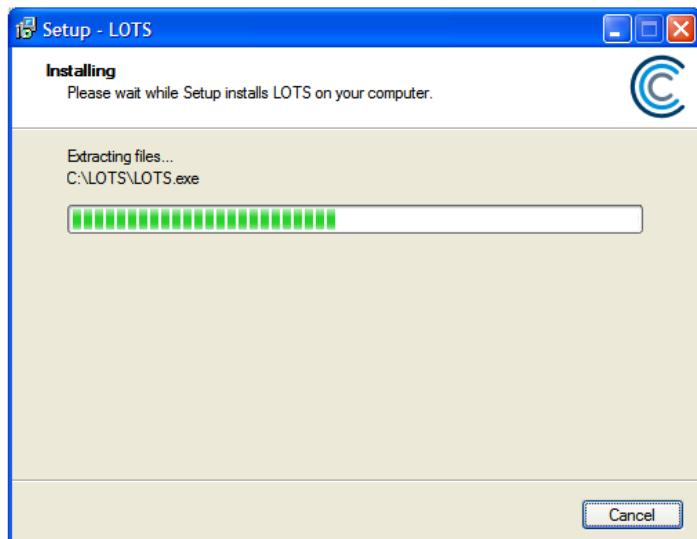

Figure 432
- The next screen to appear will be the LOTS installation screen (as shown in Figure 432).